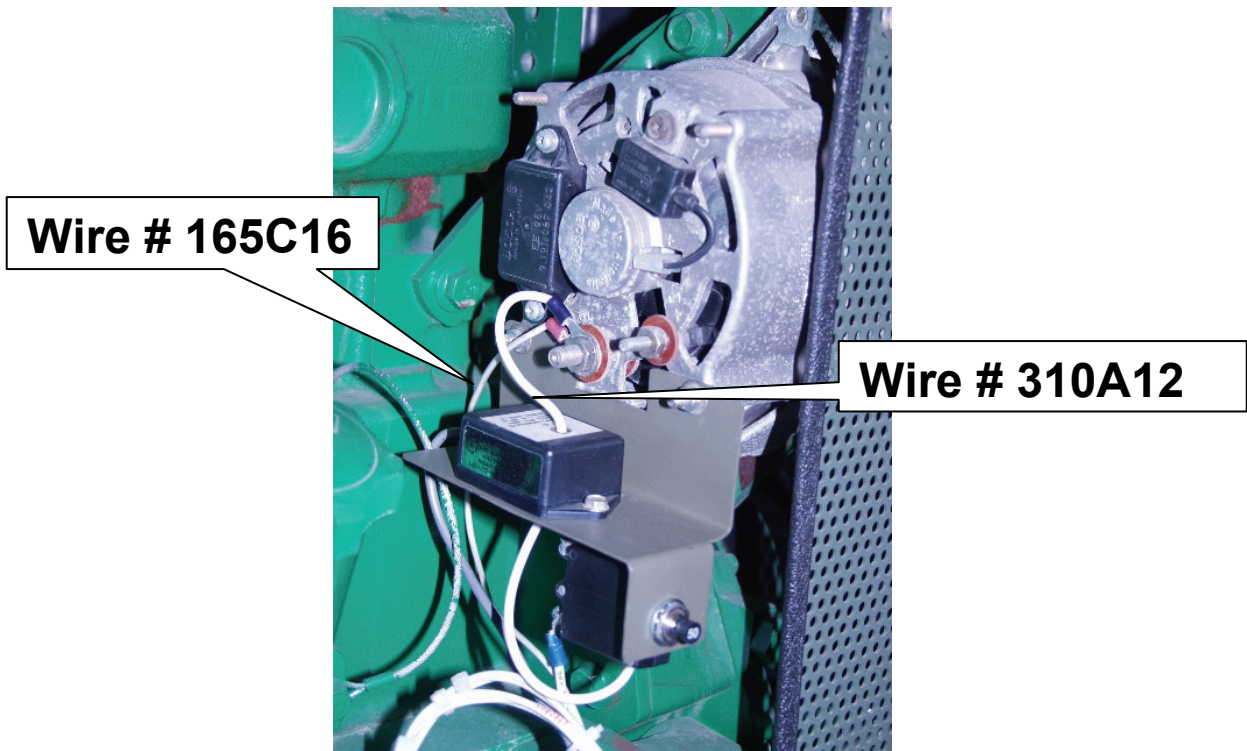

Figure 5 Final Assembly
12. Attach CB1/BCT bracket assembly to the alternator using the existing hardware as shown in figure 5.
13. Install 3/8 inch stud size, lug terminal to the positive terminal on the battery charging alternator, as shown in figure 5. If both procedures have been followed properly, then there should be two wires, wire #165C16 and wire #310A12, attached to the positive terminal of the battery charging alternator.